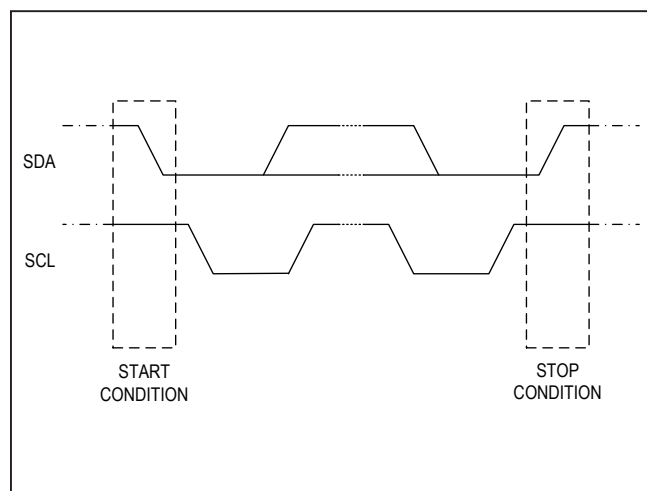

Figure 23. I²C Start and Stop Conditions
Both SCL and SDA remain high when the bus is not busy. The master signals the beginning of a transmission with a START (S) condition by transitioning SDA from high to low while SCL is high. When the master has finished communicating with the IC, it issues a STOP (P) condition by transitioning SDA from low to high while SCL is high. The bus is then free for another transmission (Figure 23). Both START and STOP conditions are generated by the bus master.